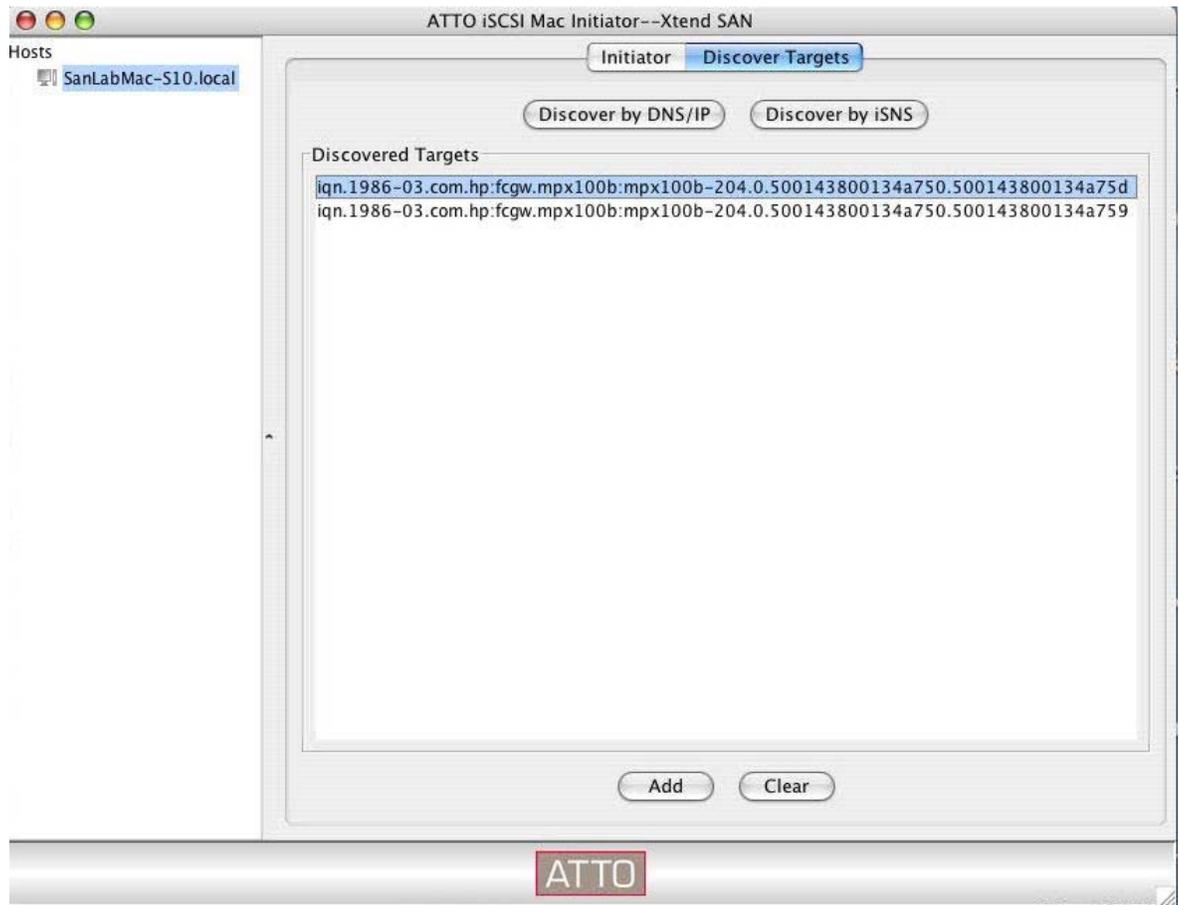

Figure 27 Discovered target list
- c.** Select a target from the Discovered Target list and then click **Add** (Figure 27).